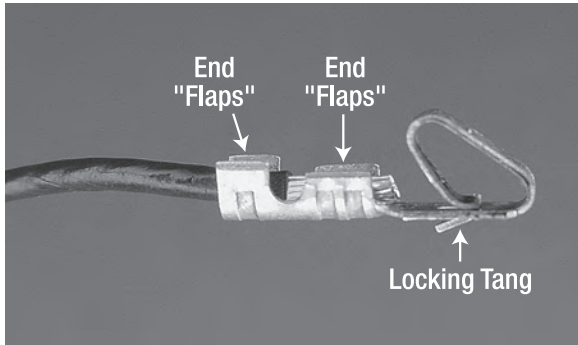

Figure 22-15. Wire inserted into terminal with plastic insulation in end flaps and bare wire in inner flaps
1. There are two sets of “flaps” on the metal terminal. Insert the wire into the terminal so that the bare wire is located at the inner set of flaps and the insulated portion of wire is located at the flaps on the end (see Figure 22-15). This is so that one set of flaps will be crimped over the bare wire to make an electrical connection and the other set of flaps will be crimped over the plastic insulation to mechanically hold the wire securely.